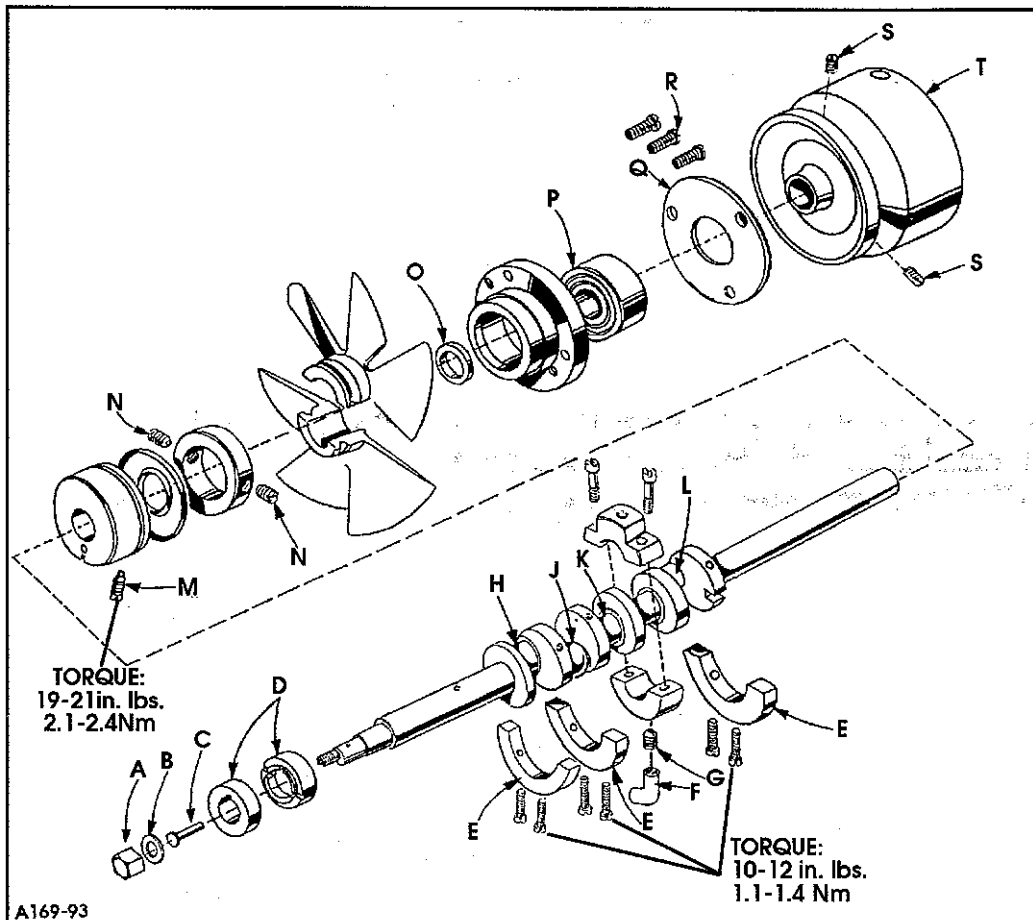
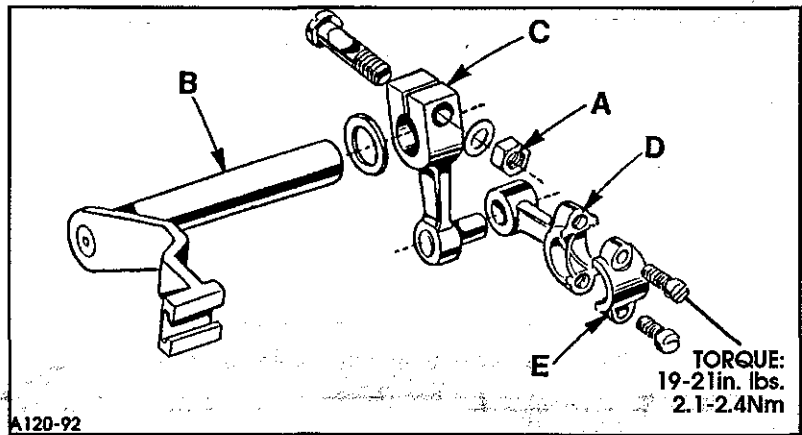

Fig. 21
Fig. 22
3. Remove feed eccentric nut (A, Fig. 21) and washer (B) and metering pin (C). With the aid of the eccentric extractor, slip off eccentrics (D).
4. Remove three counterweights (E). Identify these counterweights so that they will be reassembled in their proper positions.
- Loosen clamp nut (A, Fig. 22) which holds upper knife driving arm (B). Access clamp nut (A) through the top cover. Draw driving arm (B) to the left until upper knife driving lever (C) and connecting rod (D) drop, allowing removal of bearing cap (E). This is at bearing point (K, Fig. 21) on crankshaft. Observe the same precautions when reassembling cap as described in Step 6.
- Remove oil return tube (F, Fig. 21) located on the bottom of the bed casting. Loosen set screw (G) which holds inner right crankshaft bearing, located on the bottom of the bed casting beyond the oil return tube.
- Loosen screws (M) & (N) in the fan collar and remove both halves of the cooling fan.
- Loosen screws (S) remove pulley (T).
- Remove screws (R) and take off bearing retaining plate (Q). Bearing (P) may be removed at this time.
- If necessary to replace ball bearing (P), it should be pressed off of the shaft on an arbor press. In replacing the bearing it must be pressed on carefully until it seats against ground thrust washer (O), or use Union Special pulling tool numbers 4196301 and 4196303 for removal and replacement.